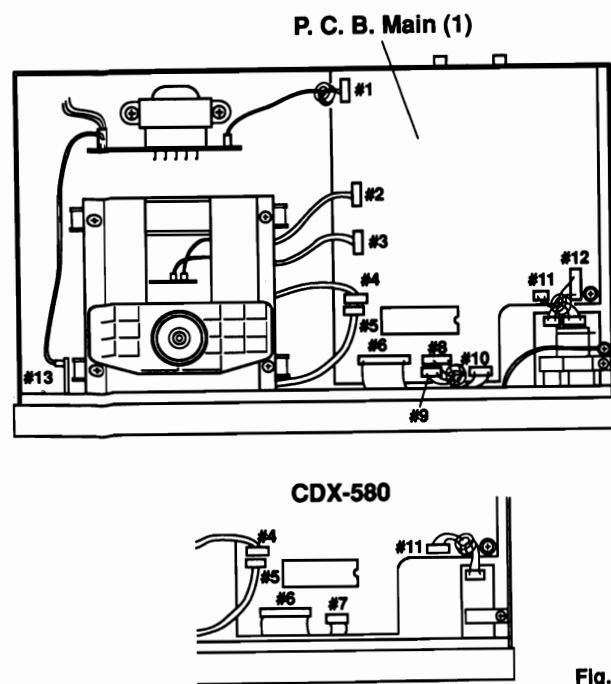

Fig. 2
- a. Remove 4 connectors (#2, #3, #4, #5) in Fig. 2.